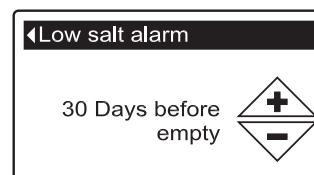

FIG. 26
5. Press the SELECT (O) button to display the Low salt alarm screen (See Figure 26).